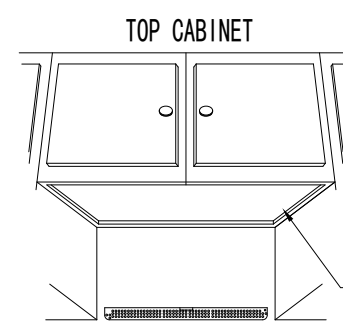
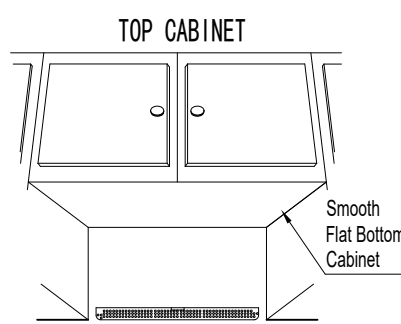

FIG. 1
FIG. 2
1. Determine if your cabinet has a recessed area or a smooth, flat bottom. See Fig. 1. If smooth, tape template onto the bottom surface (Fig. 2). If it is recessed, cut the edges of the template to fit in the recessed bottom of the cabinet. It is important that the edges of the cabinets permit level installation of the oven.